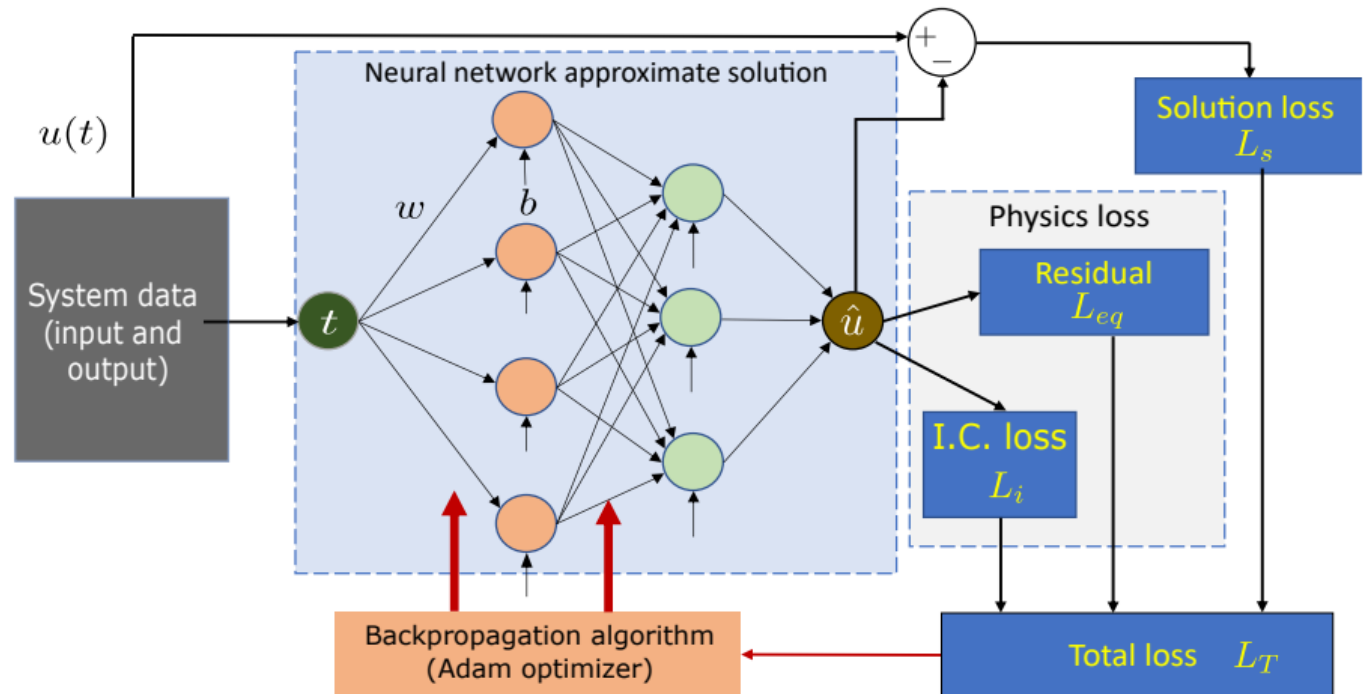

Figure 11. A PINN approach based on physics-guided loss formulation.
- I have used the exact architecture used in [1] as shown in the figure 11